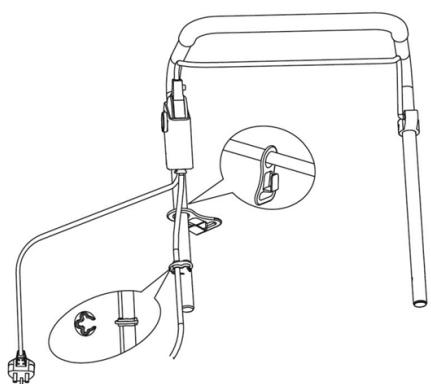

Fig.8
30. Switching on and off (Fig. 8)
The safety button (1) locks into position. (Fig. 8)
Tilt the handle down to slightly lift the front of the device and reduce the risk of damage to the lawn when starting. Press the safety lock button (1) on the control box and, while the button is still pressed, pull the gear lever (2) towards you. (Fig. 8) Then lower the machine to the correct cutting position and start scarifying.